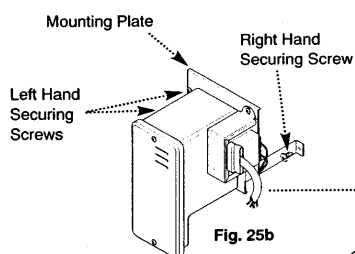

Fig. 25b
2. For better access, loosen the left hand electrical box/transformer mounting plate securing screws and remove the right hand securing screw. Slide the electrical box to the right (Fig. 25b).